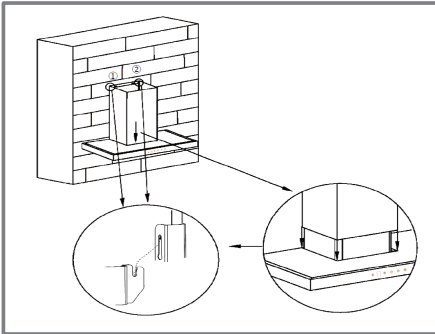
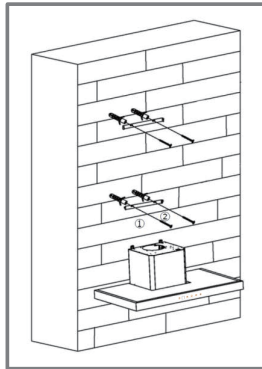

Fig. 11
Fig. 12
Step 3 (Fig. 11 / Fig. 12 / Fig. 13)
- ▶ Secure the mounting bracket onto the screws firmly ① & ② and place the flue ducts onto the appliances. (Fig. 11)
- ▶ Slide the outer flue duct section downwards, attached it to the left and right of the retaining bracket to engage it. (Fig. 11)
- ▶ Slide the inner flue duct to the required height and mark where the screws should be inserted and drill 8mm diameter holes to a depth of 40mm and secure the mounting bracket onto the screws provided. (Fig. 12)